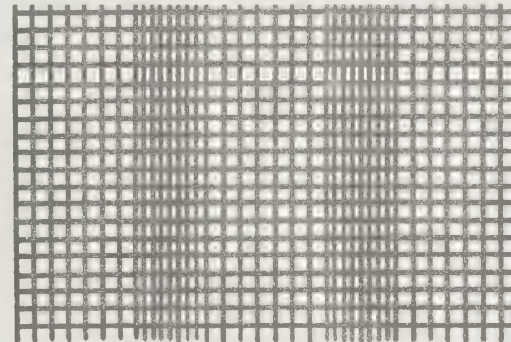

Fig. 37
5. PACKED DENT There are intervals where the thread is sleyed double, triple or quadruple to give a more solid effect in some parts of the weaving. See Fig. 37.